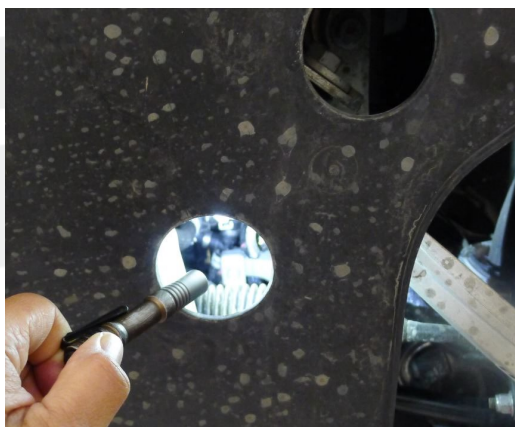

Figure 1
2. Shine a light into the front aero shield LH front caster adjustment opening (Figure 1) and inspect the flanges of the front drive unit clevis that attach to the side rail.